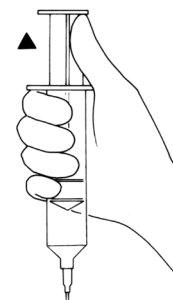

Figure 4-4a. Aspirate Air
5. Aspirate any air left in cuff until you feel a slight resistance on the plunger. (Figure 4-4a)